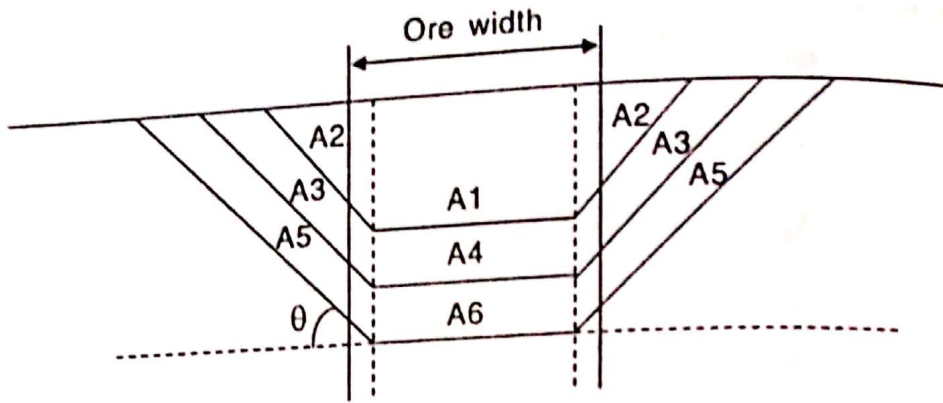
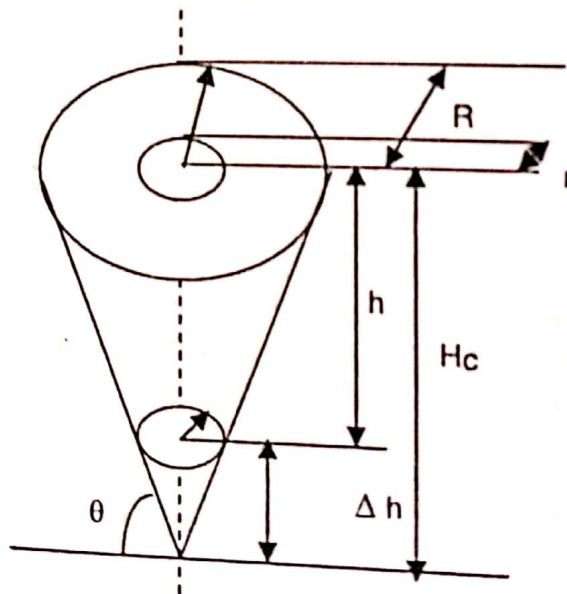

Figure 1.6 : Excavation of Ore Block
Figure 1.7 : Excavation of Ore Block
1.3.4 Determination of Stripping Ratio : The stripping ratio of the block shown in Figure 1.6 and Figure 1.7 can be determined as given below.